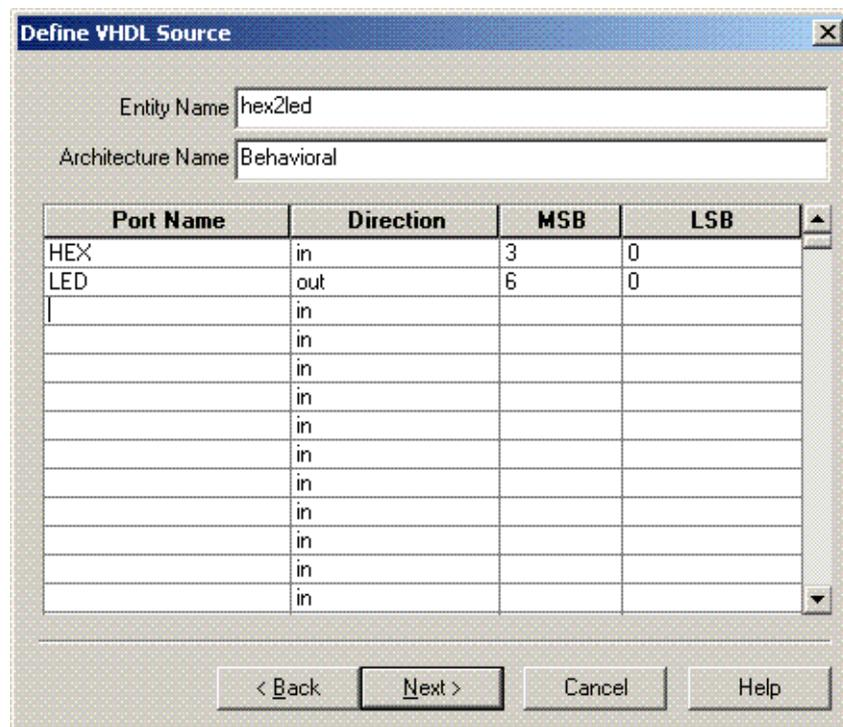

Figure 2-5: New Source Wizard for VHDL
3. In the MSB field enter **3**, and in the LSB field enter **0**. Refer to Figure 2-5.